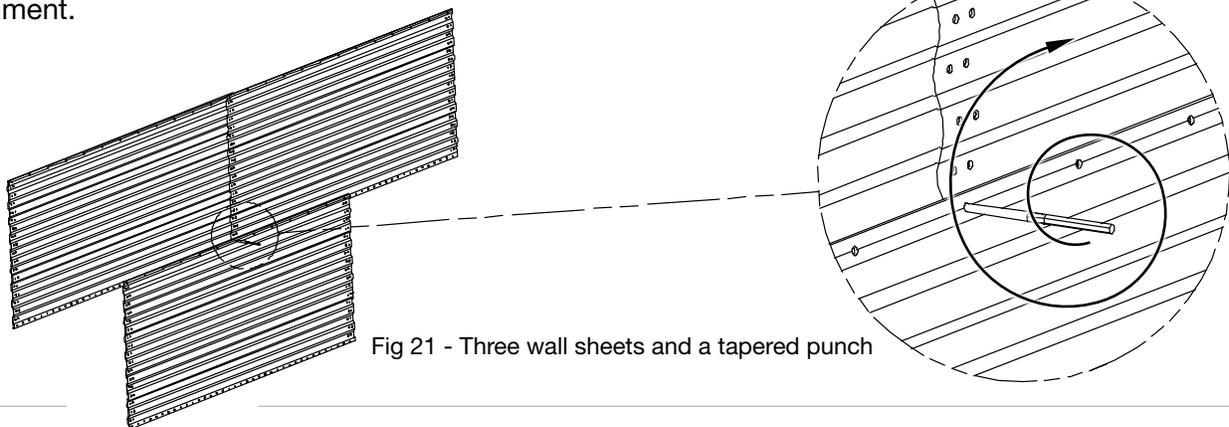

Fig 21 - Three wall sheets and a tapered punch
5. Insert the rope under the liner clamp so that the liner is between the wall sheet and the “V” of the clamp. See Figures 21 and 22. Continue around the tank, leaving a slight but consistent excess of liner between liner clamps. Finger tighten the nuts but do not completely tighten.